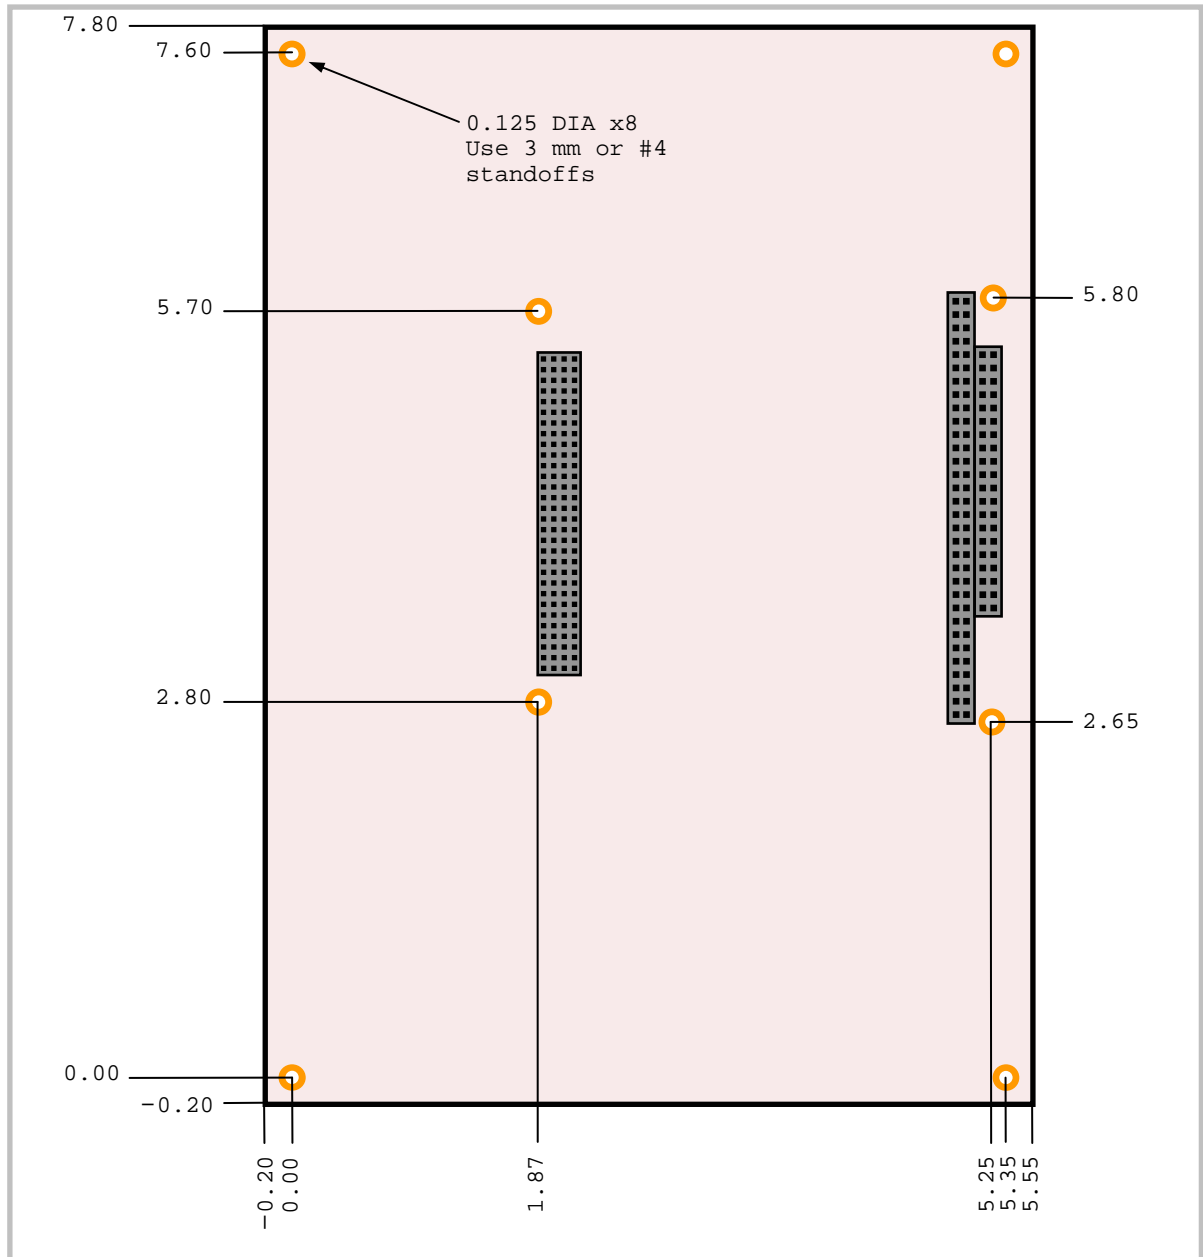

Figure 3. VL-EBX-37 Dimensions and Mounting Holes
2. The PCB origin is the mounting hole to the lower left as shown in Figure 3 (lower right when viewing bottom side of board).